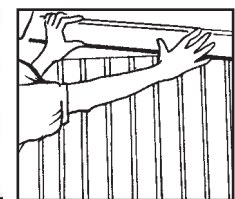

Figure 3
- Wainscot Chair Rail is applied with grooved lip facing down above the 32" wainscot. (See Figure 3.)